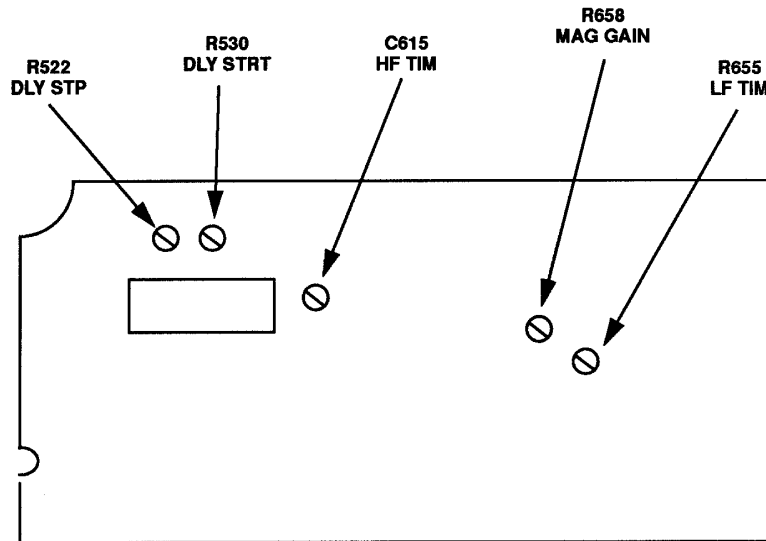

Figure 2. Type 5B42 B board - right-side view.
(2) On oscilloscope calibrator, rotate knob located below **EDIT FIELD** pushbutton to adjust output for 0.0% indication on **err** display. Adjust R655 LF TIM (fig. 2) to align one time marker per division (R).
(2) On oscilloscope calibrator rotate knob located below **EDIT FIELD** pushbutton to adjust output for 0.0% indication on **err** display. Adjust R655 LF TIM (fig. 2) to align one time marker per division (R).
(3) On oscilloscope calibrator rotate knob located below **EDIT FIELD** pushbutton to adjust for 0.0% indication on **err** display. Adjust R658 MAG GAIN (fig. 2) to align one time marker per division (R).
(1) Adjust **DELAY TIME MULT** dial to **1.00** and adjust R530 DLY STRT (fig. 2) until intensified portion of trace starts on 2d vertical graticule line (R).
(2) Adjust **DELAY TIME MULT** dial to 9.00 and adjust R522 DLY STP (fig. 2) until intensified portion of trace starts on the 10th vertical graticule line (R).
(3) Press **DISPLAY MODE DLY'D SWP** pushbutton. Adjust R530 DLY STRT and R522 DLY STP (fig. 2) equally until time marker is just visible at start of trace.
(4) Press **DISPLAY MODE INTENS SWP** pushbutton and repeat (1) through (3) above, as necessary, for best compromise.
(5) On oscilloscope calibrator rotate knob located below **EDIT FIELD** pushbutton for 0.0% indication on **err** display. Adjust C615 HF TIM (fig. 2) to align one time marker per division (R).